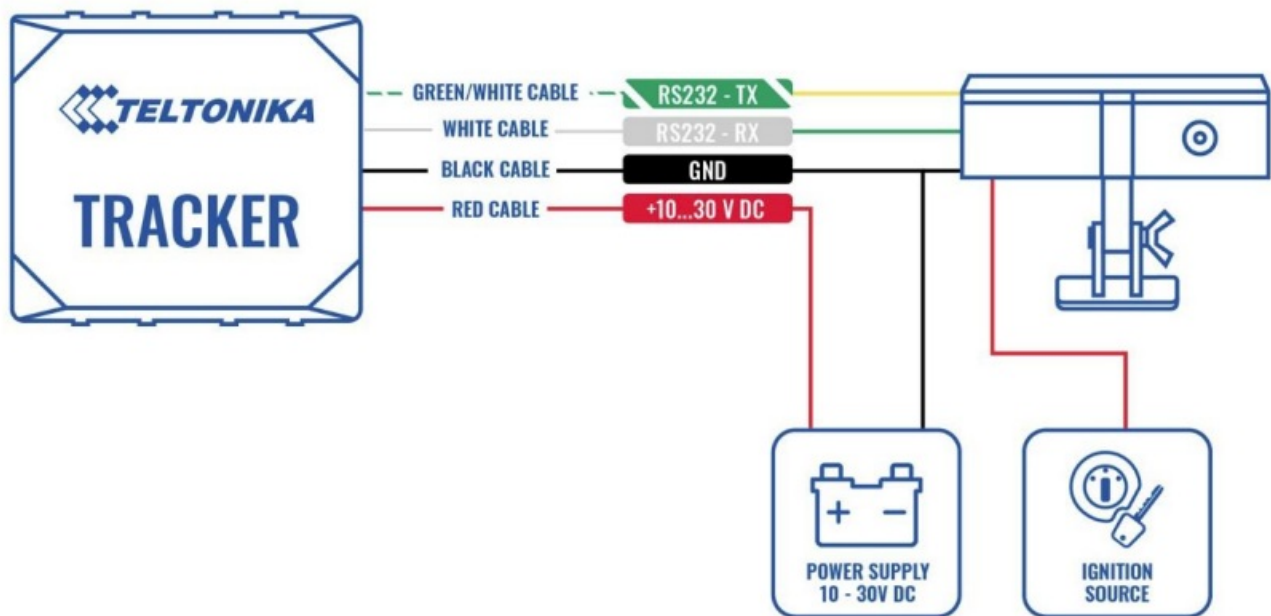

Figure 1 Performing tests on table with power supply
- Connect the FMX125 device and DashCam on a table with a power supply as shown in Figure 1.